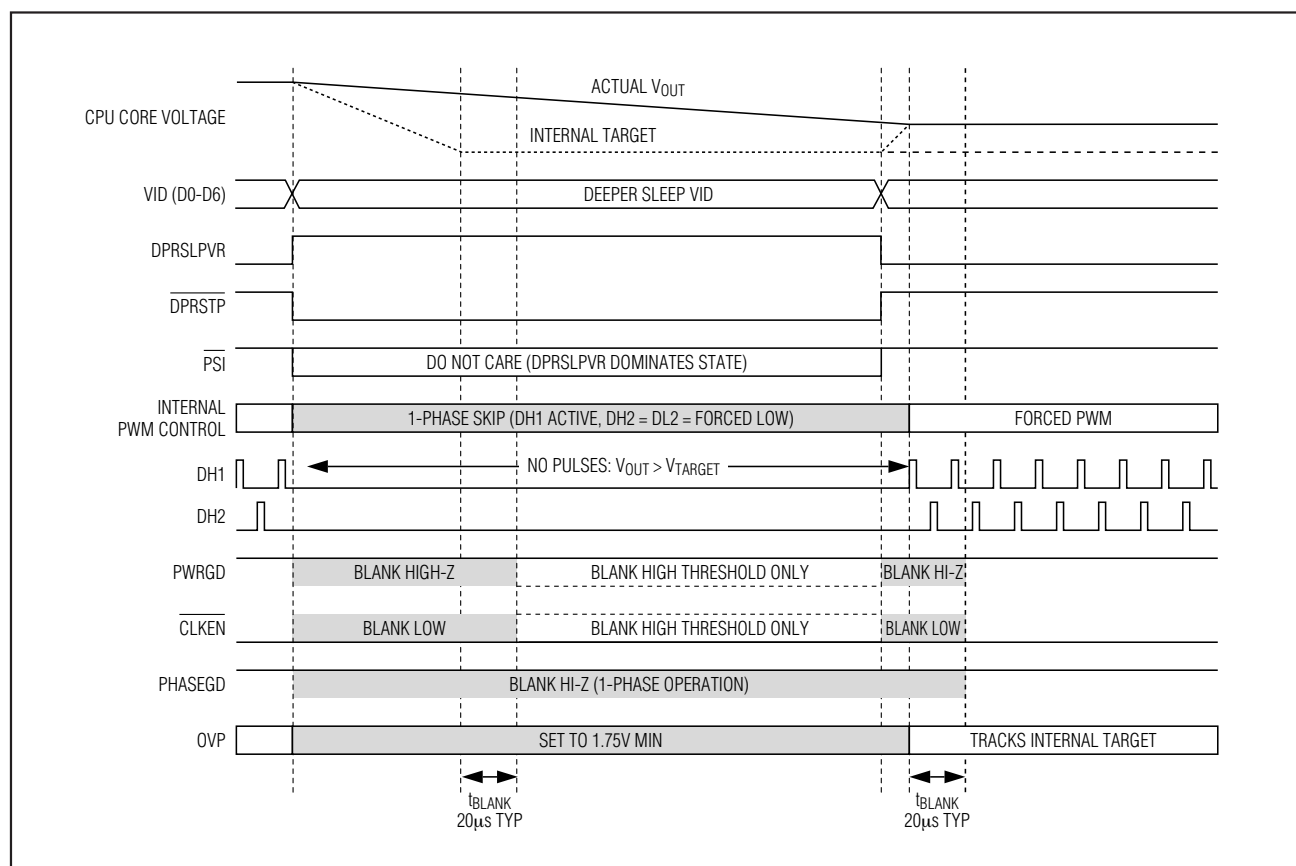

Figure 4. C4E (C4 Early Exit) Transition
When DPRSLPVR goes high, the MAX17410 immediately disables phase 2 (DH2 and DL2 forced low), blanks PHASEGD high impedance, and enters pulse-skipping operation (see Figures 4 and 5). If the VIDs are set to a lower voltage setting, the output drops at a rate determined by the load and the output capacitance. The internal target still ramps as before, and PWRGD
**Fast C4E Deeper Sleep Exit:** When exiting deeper sleep (DPRSLPVR pulled low) while the output voltage still exceeds the deeper sleep voltage, the MAX17410 quickly slews (50mV/ $\mu$ s min regardless of RTIME setting) the internal target voltage to the DAC code provided by the processor as long as the output voltage is above the new target. The controller remains in skip mode until the output voltage equals the internal target. Once the internal target reaches the output voltage, phase 2 is enabled. The controller blanks PWRGD, PHASEGD, and CLKEN (forced high impedance) until 20 $\mu$ s after the transition is completed. See Figure 4.